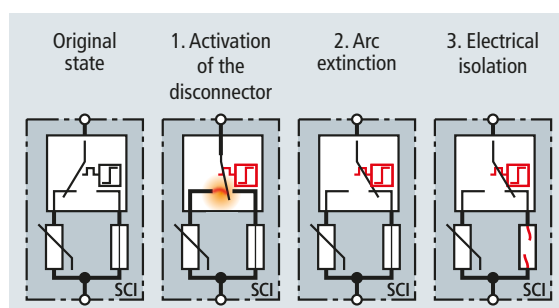
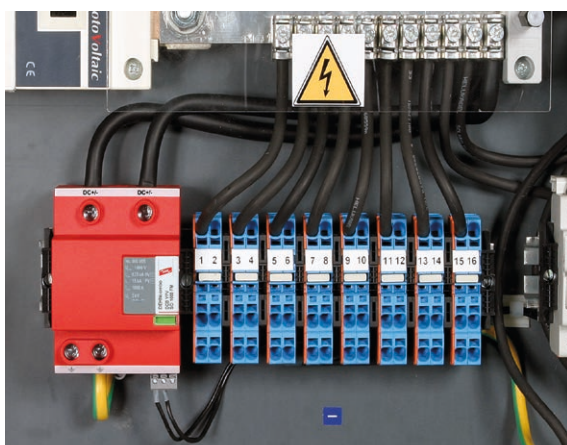

Figure 10 Switching phases of the three-step d.c. switching device integrated in DEHNCombo YPV SCI ... (FM)
Figure 11 Surge protective device in a monitoring generator junction box
the entire unit into a safe state (**Figure 10**). Thus, DEHNcombo YPV SCI ... (FM), which is installed at the inverter and in the generator junction box (GJB), reliably protects PV generators up to 1000 A without backup fuse (**Figure 11**). DEHNcombo YPV SCI is available for 600 V, 1000 V and 1500 V. If string monitoring systems are used, the floating remote signalling contacts for condition monitoring of the SPDs can be integrated in these monitoring systems.